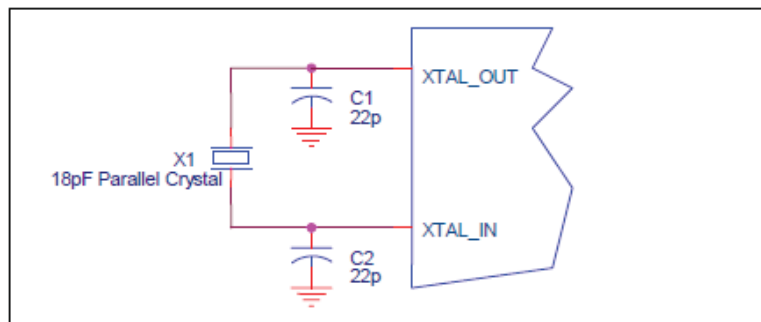

FIGURE 2. CRYSTAL INPUT INTERFACE
*Figure 2* below were determined using a  $25\text{MHz}$ ,  $18\text{pF}$  parallel resonant crystal and were chosen to minimize the ppm error.